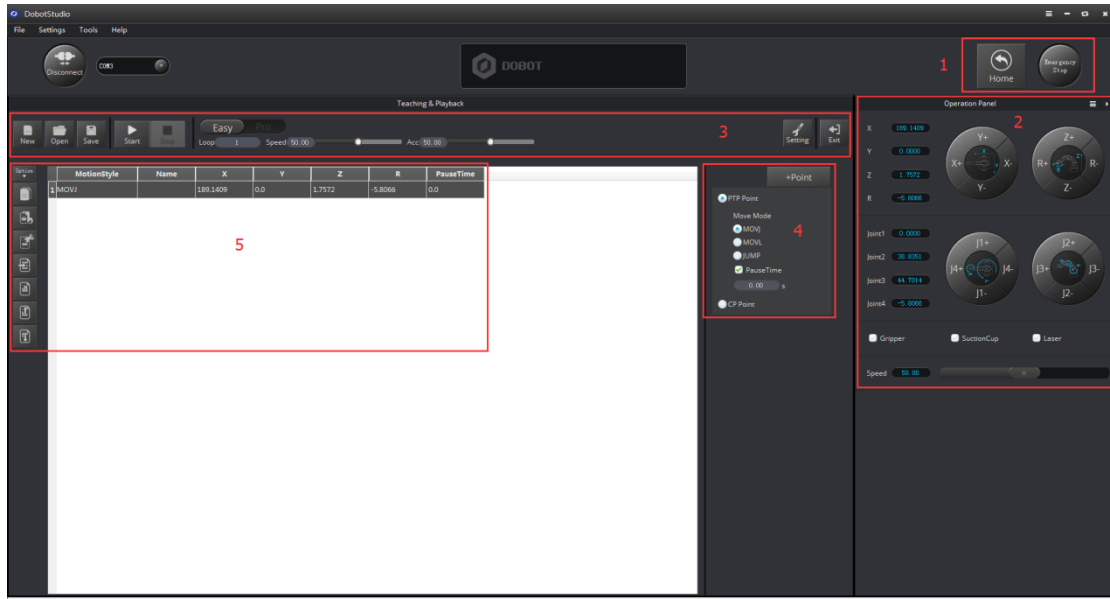

Figure 2.5 The main interface of teaching & playback
3. Install the gripper kit on Joint4 with coupler, that is done! Shown in Figure 2.5: